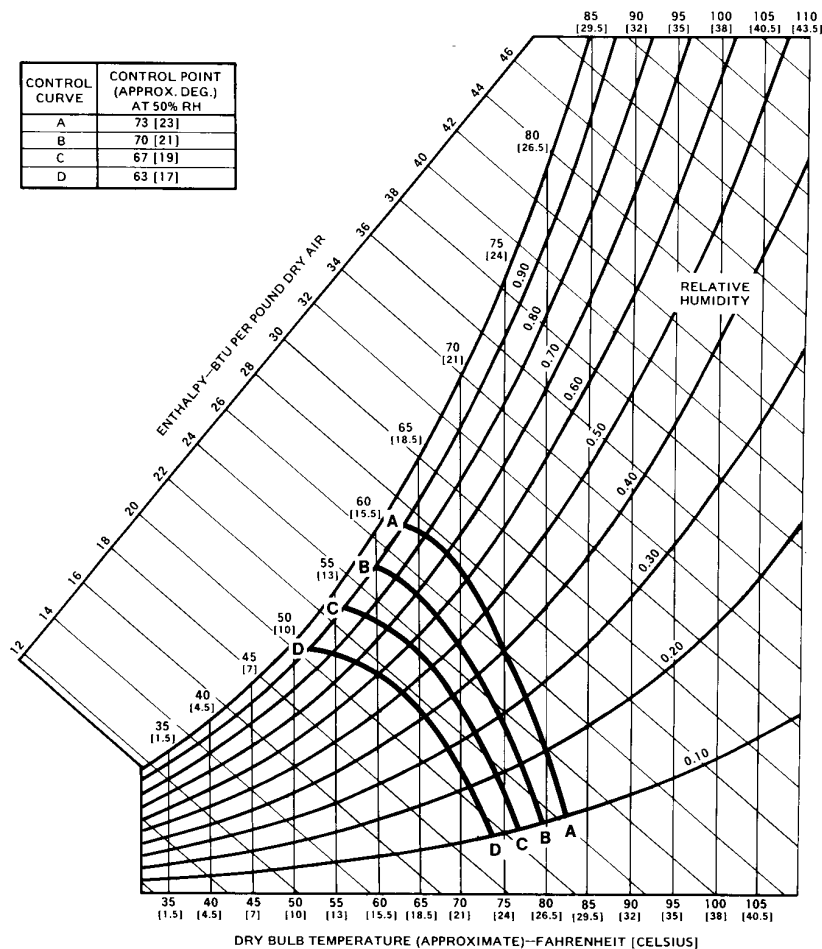

FIGURE 20 - ENTHALPY SET POINT CHART
The enthalpy set point may now be set by selecting the desired set point shown in the Enthalpy Set Point Adjustment Figure 20. Adjust as follows:
- For a single enthalpy operation carefully turn the set point adjusting screw (found on the damper control module) to the "A", "B", "C" or "D" setting corresponding to the lettered curve of the Enthalpy Set Point Adjustment Figure 20.